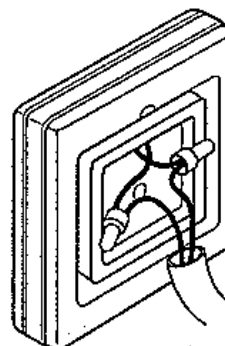

fig.3
4. Run the cable provided through the hole in the wall and connect to the controller. (fig. 3.)